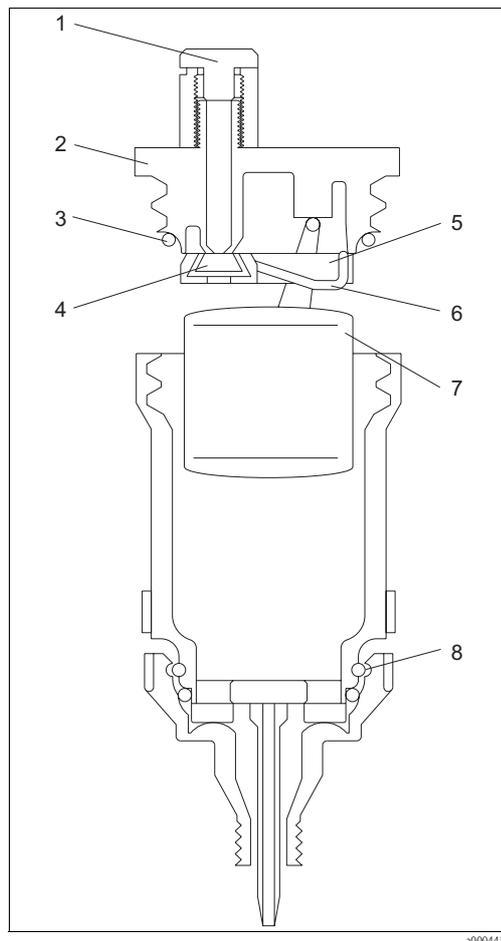

Fig. 14: Air vent detailed view
2. Remove the float assembly by unscrewing the top of the body and lifting the black cover assembly up (Fig. 14., pos. 2).
3. Carefully clean the seat area (pos. 4) of any dirt or debris.
5. Replace the float assembly, making sure that the O-ring (pos. 3) is seated properly.
8. Make sure the red vent cap (pos. 1) is tightened all the way to the stop position for proper operation. Use hands only to tighten.